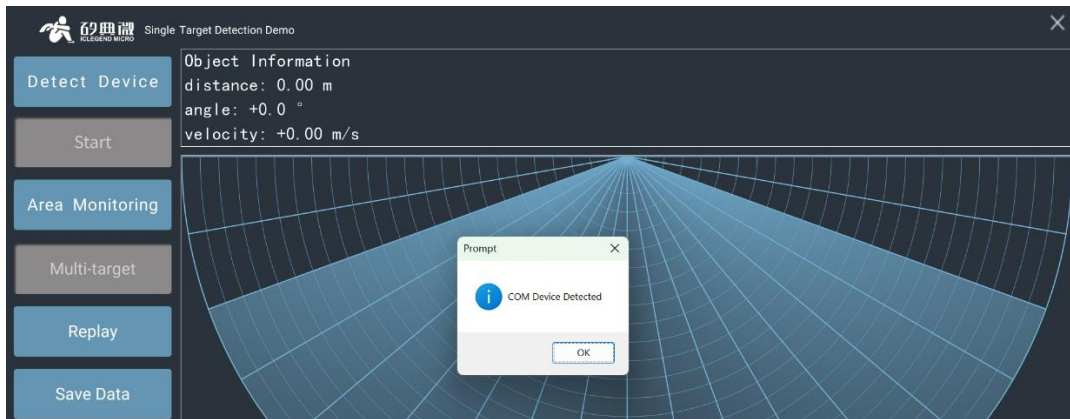

Figure 4-5 Device successfully detected
Step 2: Click the **Detect Device** button: if the module successfully connected to the host PC, a window writing Serial Port Device Detected will appear, as shown in Figure 4-5, click the **OK** button to continue;